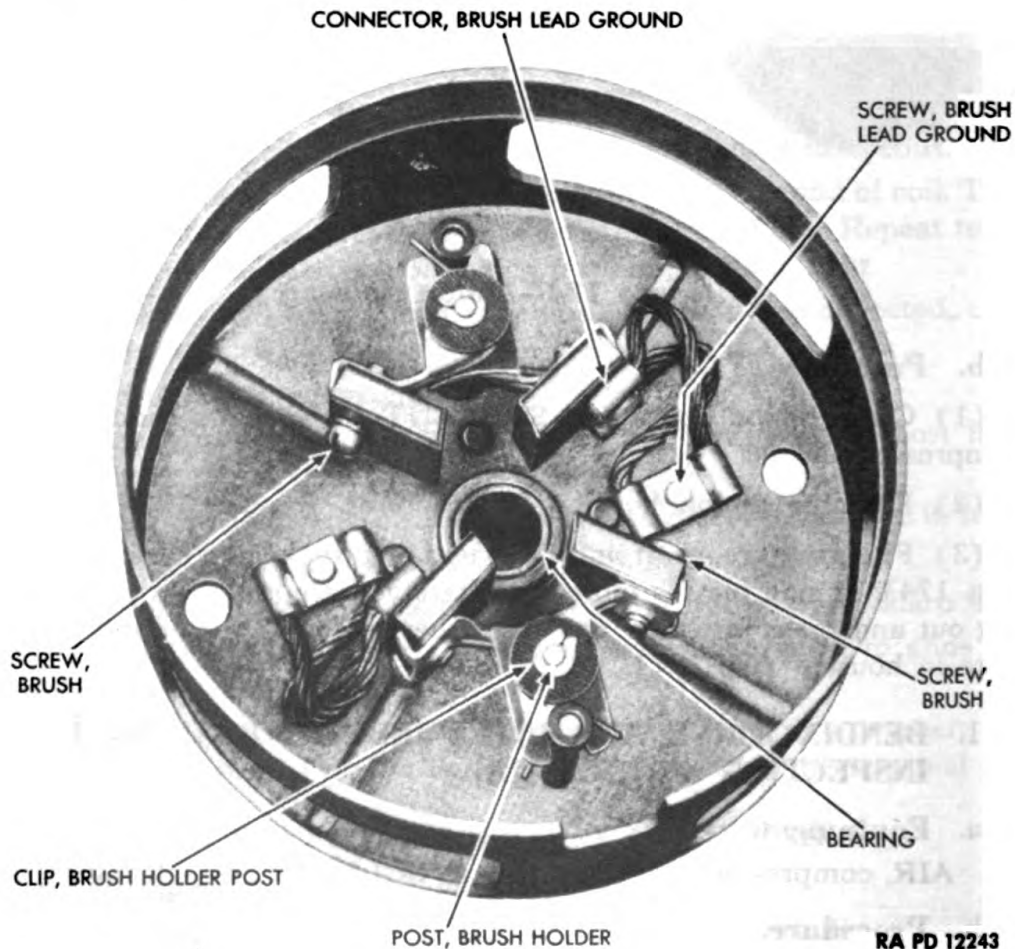
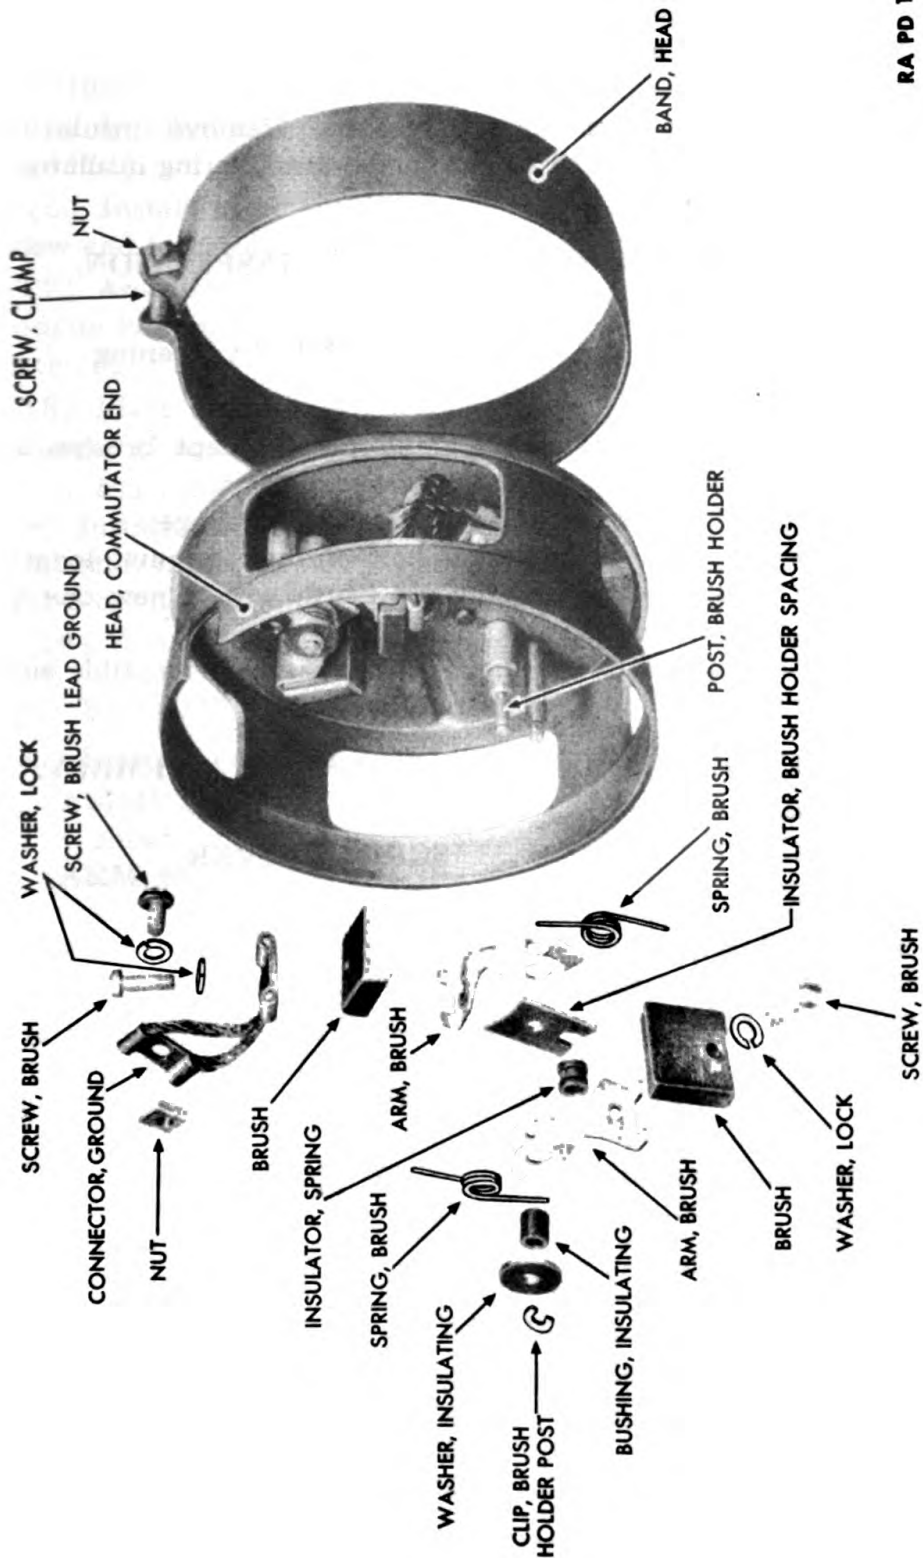

Figure 175—Commutator End Head Assembly
Figure 176—Exploded View of Commutator End Head Assembly
(a) Remove brush screws and lock washers (fig. 175). Remove brush lead ground screws and lock washers (fig. 175). Lift out brushes and ground connectors (fig. 176).
(1) Clean commutator end head and all parts except brushes in SOLVENT, dry-cleaning. Blow dry with compressed air.
(2) Inspect all parts for scoring, distortion and breakage.
(3) If brushes are worn to less than half of their original length, replace with new brushes. Compare the old brush with a new one to determine the amount of wear.
(4) Fit armature shaft into bearing. If there is any perceptible side play, replace commutator end head (fig. 175).
(1) Install brush holder spacing insulators, spring insulators, brush arms, brush springs, insulating bushings, and insulating washers (fig. 176). Install brush holder post clips on posts (fig. 176).
(2) Place brushes and ground connectors in position. Install lock washers and brush lead ground screws. Install lock washers and brush screws.
(3) CHECK INSULATED BRUSHES.